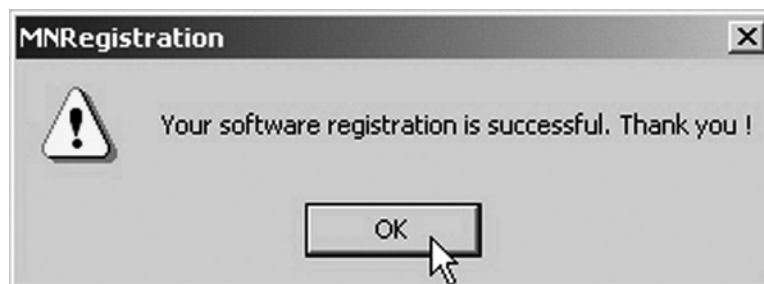

Figure 21 Successful Registration Message
5. Click **OK** and Figure 21 appears.